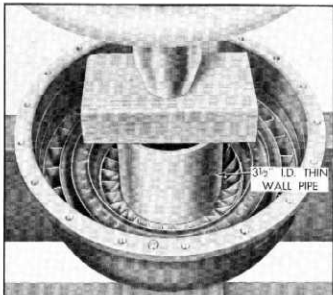
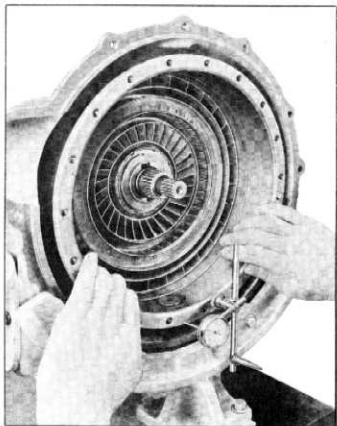

Fig. 79—Installing Primary Pump Hub
Fig. 80—Check Runout of Primary Pump
I.D. of $3\frac{1}{2}$ ", carefully press the primary pump over the hub by applying the pipe against the pump hub face (fig. 79).
11. Install the (6) screws with lockwashers and draw up evenly to $4\frac{1}{2}$ ft. lbs. torque.
12. Using a small punch,peen dowel holes around the ends of the (3) dowels to prevent any possibility of a dowel working into the converter.
14. Mount a dial indicator on the transmission mounting fixture so that the button of the indicator will contact the forward face of the primary pump (fig. 80).